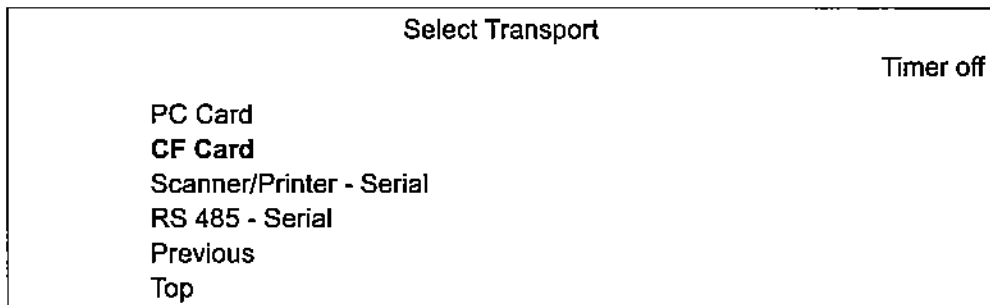

Figure F-9. Select Transport Menu
4. **Select the File Media Source** - see Figure F-9. The *Select Transport* menu is displayed. Use the **A** button (Down) to highlight *CF Card* and select using the **C** button (Select/Action).